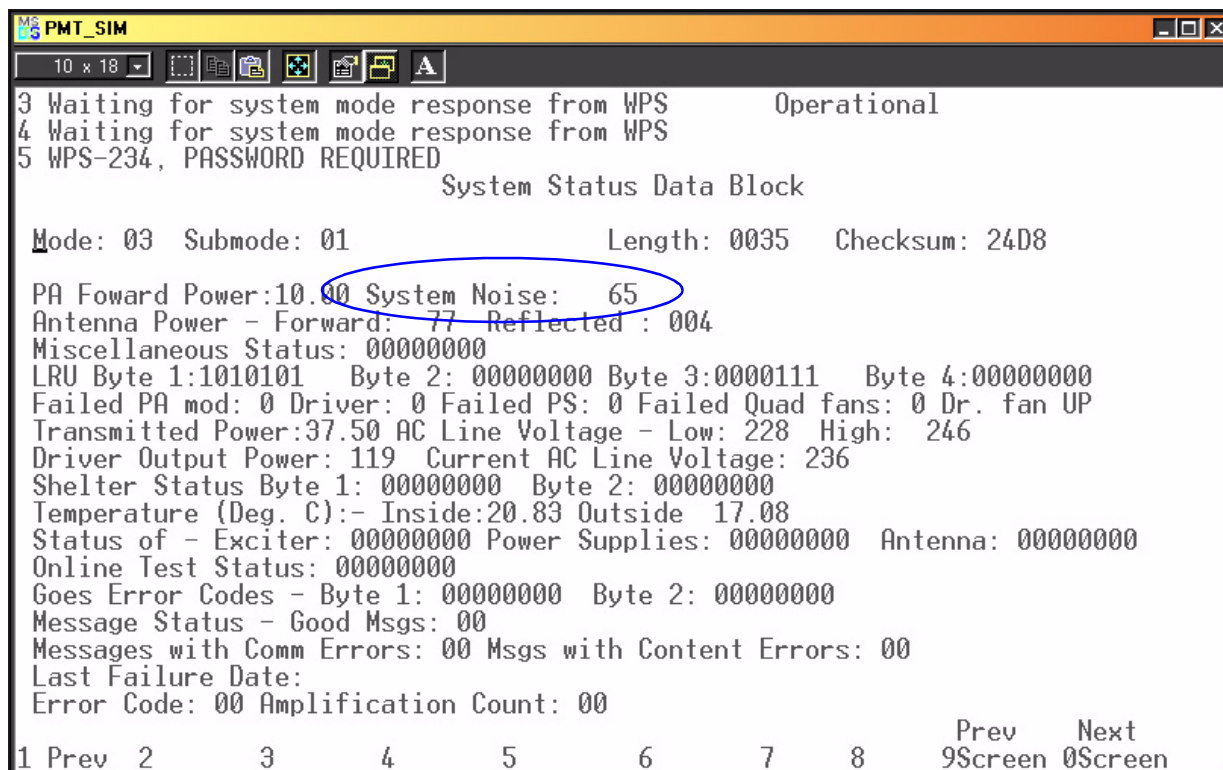

Figure 5-4 Profiler Maintenance Terminal Status Data Block Screen
6. Select Display Current Output from the PMT Main Menu. Select Landline from the menu. Select Status Data from the menu. The *System Status Data Block* screen will appear on the PMT (see Figure 5-4).